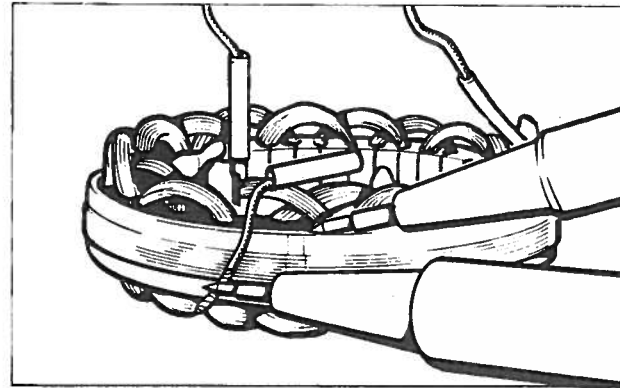

Fig. 59 Testing stator for short circuit
11. Test the stator for short circuits to earth Fig. 59.